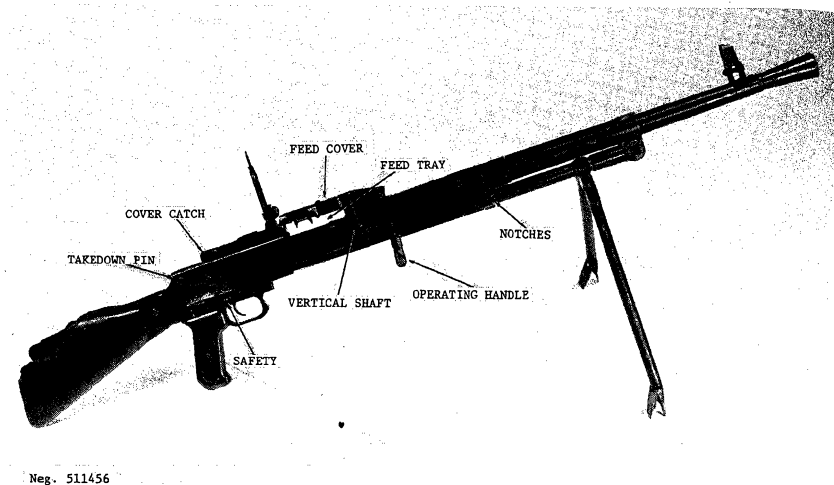
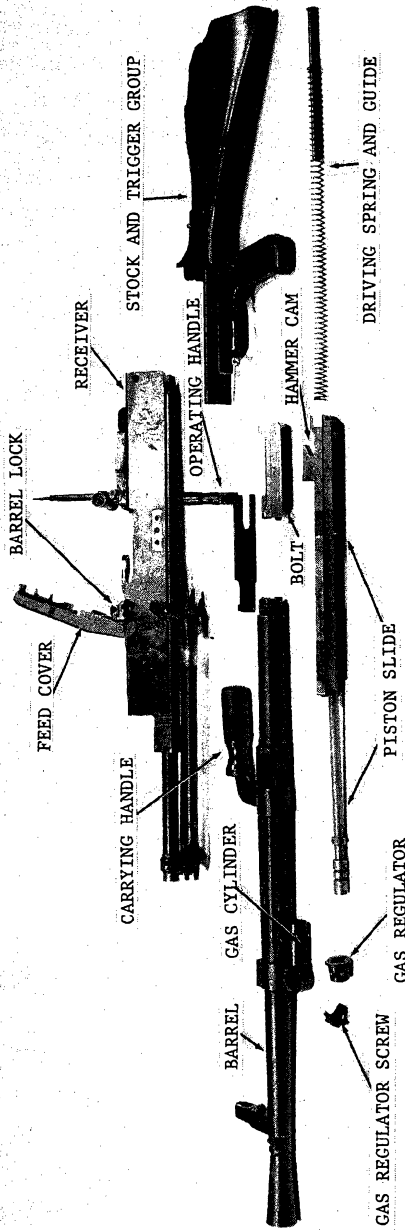

Figure 157. PRC Type 67 light machinegun.
Figure 160. Type 67 field stripped.
a. The 7.62-mm Type 67 machinegun (fig 157) recently entered service with the People's Republic of China's Army and has also been given to the North Vietnamese. This weapon will probably replace both the Type 53 light machinegun and the Type 58 company machinegun (para 173).
b. Press the cover catch (fig 157) to one side and allow the feed cover (fig 157) to swing open. Unfold the operating handle (fig 157) until it points downward at a 45-degree angle; pull it fully to the rear, then return it fully forward. Place the cartridge belt on the feedtray (fig 157) with the first round in the feedtray slot. Close the cover.
c. If the gun is not to be immediately fired, render it safe by rotating the safety (fig 157) forward.
d. Prior to firing, lift the rear sight to its vertical position and rotate the elevation knob (on the left) (fig 157) until the number that corresponds to the range in hundreds of meters is aligned with the top edge of the slider (fig 157). Each click of the elevation knob, up to 1000 meters, causes a change in range of approximately 25 meters; beyond 1000 meters, each click equals about 20 meters. The right hand knob is used to apply windage corrections. Each click of this knob causes a change in bullet impact of about one inch for each hundred meters of range.
e. To fire, rotate the safety (fig 157) rearward, aim, using a normal sight picture, and press the trigger. The gun will fire as long as the trigger is pressed and cartridges are in the belt. Best results are achieved by firing in bursts of five to eight rounds, then reaiming and firing again. The bolt will remain open between bursts and close on an empty chamber when the last round has fired.
g. The barrel may become overheated during firing. To change barrels, press the cover catch and open the feed cover (fig 157). Press the barrel lock (fig 160) to the left as far as possible. Use the carrying handle and pull the barrel forward, out of the gun. Insert the spare barrel into the receiver, insuring that the gas cylinder enters the gas cylinder tube (fig 157). Press the barrel lock in, fully to the right. (Note: There is a screw adjustment on the barrel lock to compensate for wear. This screw is adjusted only by an armorer.) Close the cover.
b. Press the takedown pin (fig 157) out to the right as far as possible, then pull the stock and trigger group straight to the rear until it comes free. Remove the driving spring and guide. Pull the operating handle rearward; this will move the gas piston, slide and bolt to the rear where they can be removed. Lift the bolt off the slide (fig 160). Pull the operating handle rearward until it comes clear of the receiver.
groove and, as the cam moves rearward, the roller and its arm are moved sideward by the cam. This movement is transmitted by a vertical shaft (fig 157) to an upper feed arm. As the upper arm moves, a slot in it engages a roller on the feed slide and the upper arm movement causes the feed slide to move outward to engage a fresh round.
the leg clamps. Install the gun on the tripod by fitting the notches on the front of the receiver (fig 157) onto the pins in the mount; then swing the gun down until the latch snaps onto the front of the trigger guard. The method of converting this mount for antiaircraft use is similar to the method described in paragraph 220d.